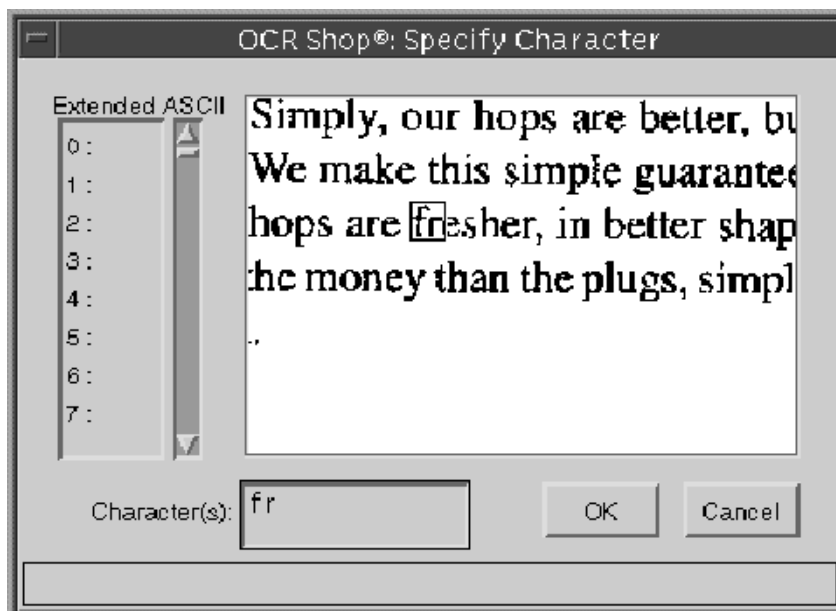

Figure 4-10 Specify Character
3. Click on the first incorrectly recognized or rejected character. then, click Specify... and the Specify Character window will appear as shown in Figure 4-10. The character will be displayed, along with OCR Shop’s best guess as to what the character is, as shown in the Characters: text field. Alternatively, by double-clicking on the character, the user can call up the Specify Character window